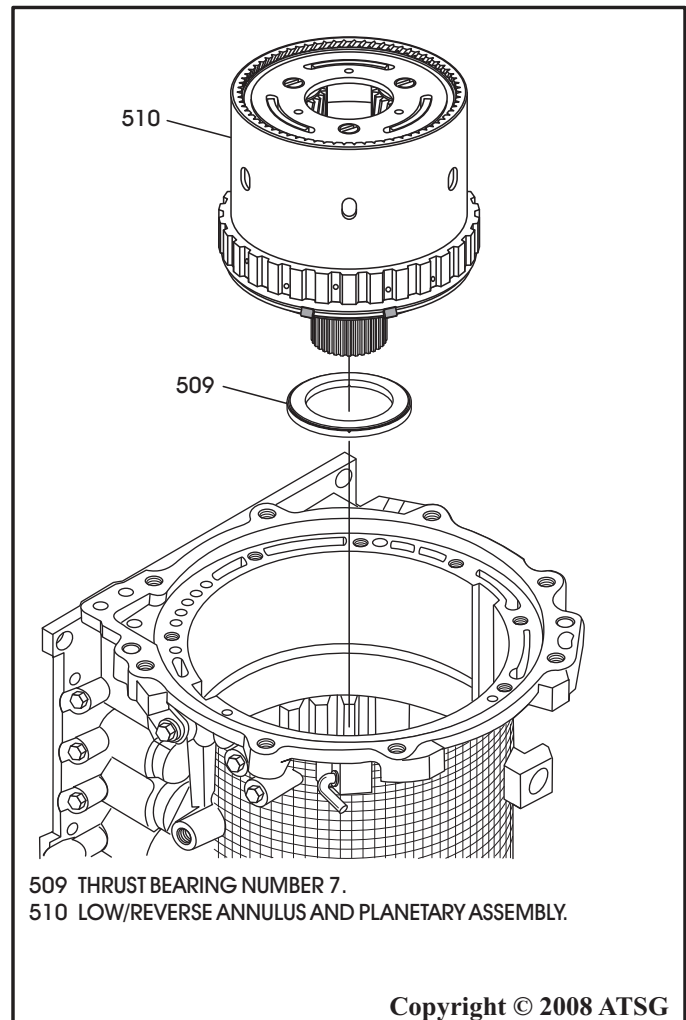

Figure 50
40. Remove the low/reverse annulus and planetary assembly, as shown in Figure 50.
41. Remove the number 7 thrust bearing, as shown in Figure 50.